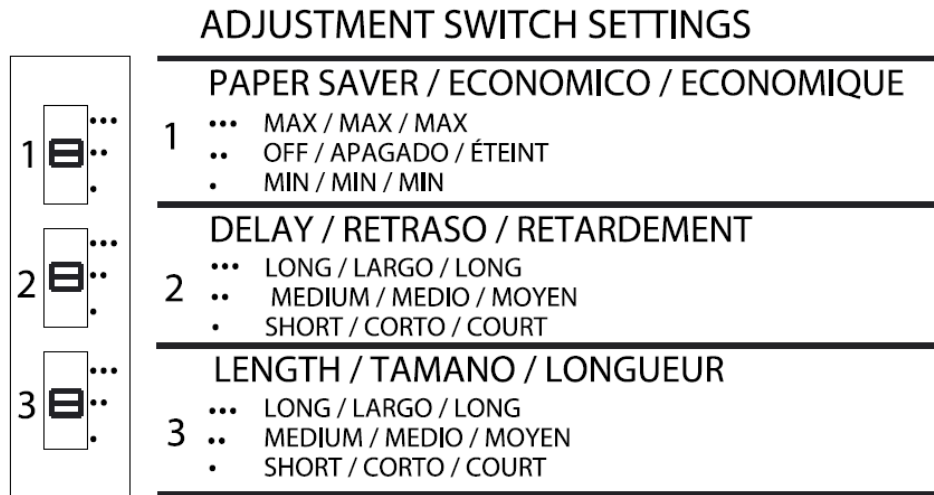

Fig. 11
There are three (3) three-position switches available to customize the control system (Fig. 11). These switches are on the right, inside corner of the mechanism. Once the cabinet door is closed, and the paper is loaded correctly, the unit is ready to dispense at the factory default settings: normal dispense mode, nominal 12" [305] paper length, and a 1 second delay between dispenses. **NOTE:** **It may take about 3 dispenses for the mechanism to self-adjust to the nominal paper length.**